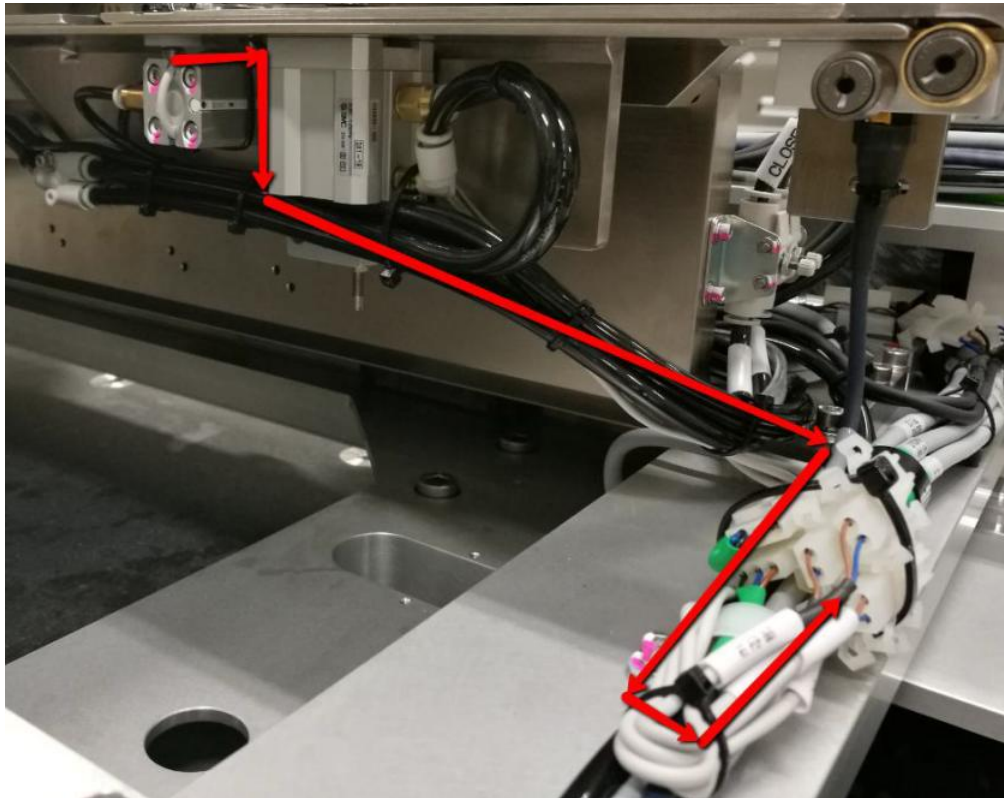

Figure 7 Left PIP In Reed Sensor Removal
8. Remove defective Left PIP In Reed sensor by below routing path. May refer to Figure 7